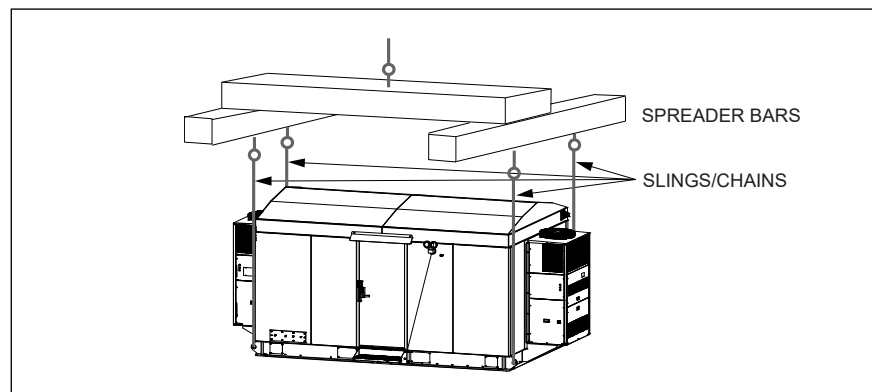

Figure 8 Lifting the WIC
3. Install a clevis and shackle or a threaded shackle in each eyebolt at the bottom corners of the WIC as shown in Figure 8.
4. Insert all four (4) 10 feet minimum lifting slings securely through all four clevises or shackles as shown in Figure 8. Never route straps, cables, or chains through the forklift channels in the base for a vertical crane lift.